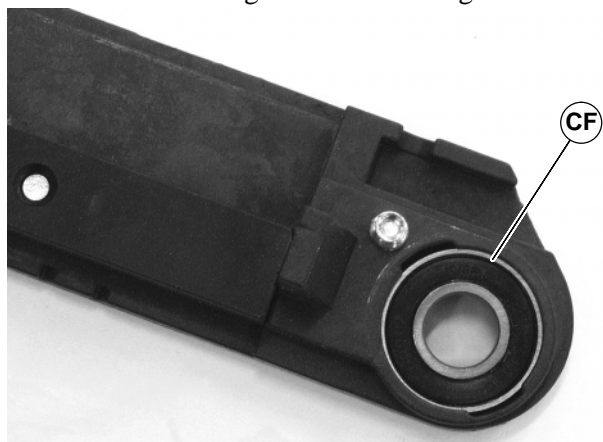

Figure 49
2. Insert bearing (CF of Figure 49) into head plate slot and twist bearing to fit into bearing enclosure.